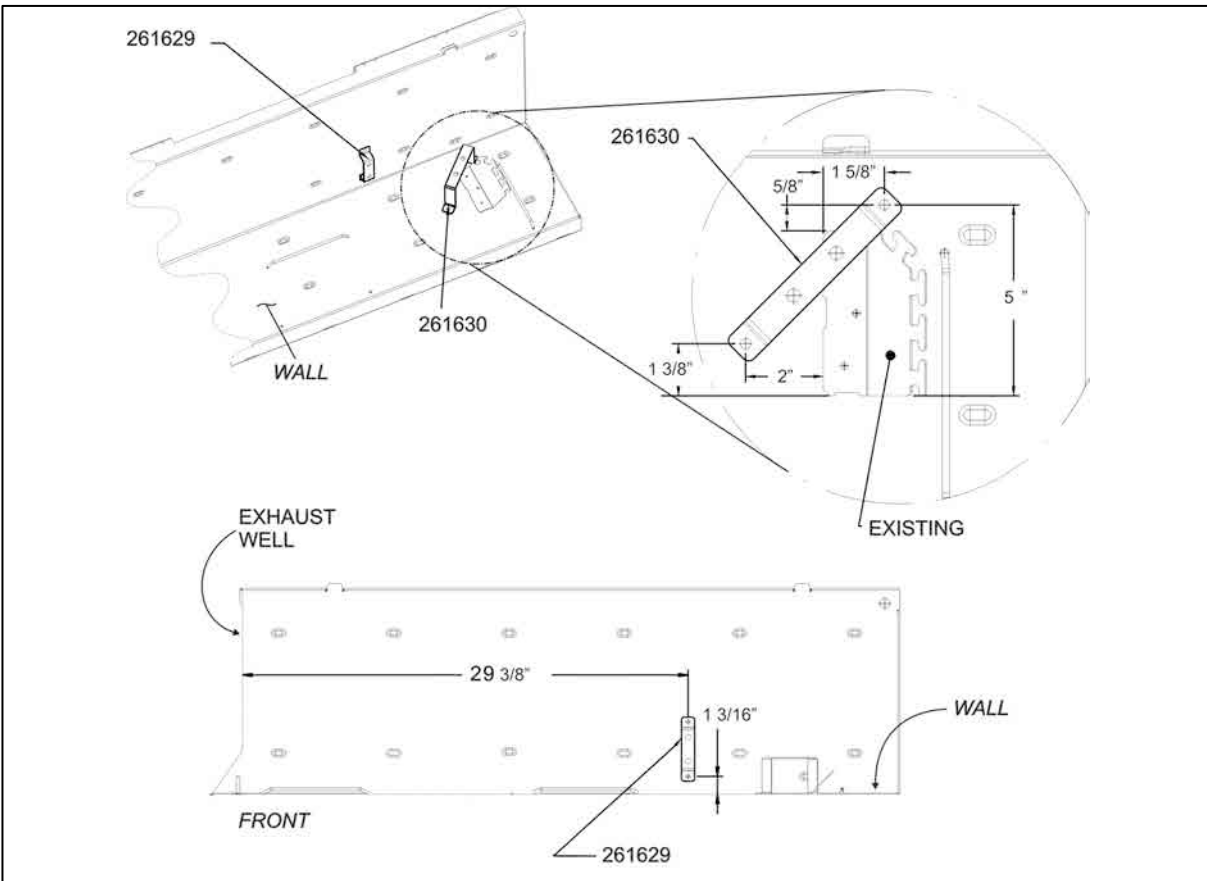

Figure 15 Support Layout for Vehicles From C-5260 incl.
21. Vehicles after **C-5260** included require one **261629** bracket, (Fig 15, 17).
25. Assemble coolant hoses with fir tree push mount cable ties (fig. 15). *Do not tighten cable ties.*